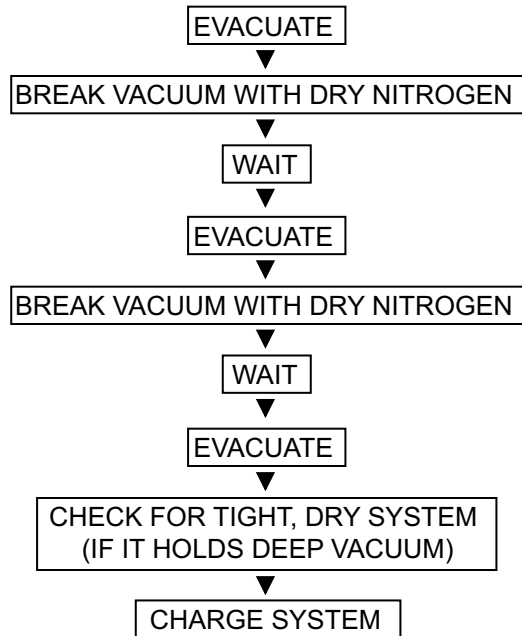

Fig. 34 – Triple Evacuation Method
The triple evacuation method should be used when vacuum pump is only capable of pumping down to 28 in. of mercury vacuum and system does not contain any liquid water. Refer to Fig. 34 and proceed as follows:
5. Repeat this procedure as indicated in Fig. 34. System will then be free of any contaminants and water vapor.